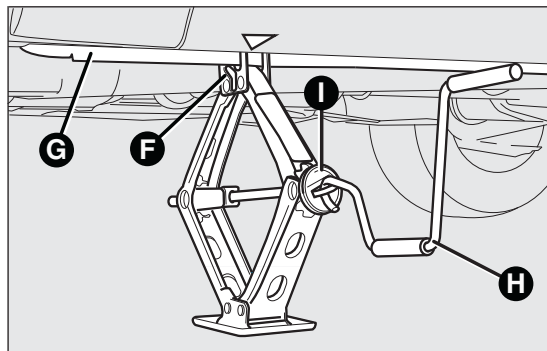

fig. 100
- ☐ turn the jack handle to partially open it fig. 100;
- ☐ extend the jack until groove F fig. 100 on the jack fits correctly into ridge G fig. 100 underneath the side member;
- ❑ fit the handle H fig. 100 to operate the jack device I fig. 100 and raise the car until the wheel is a few centimetres from the ground. When turning the jack handle make sure that it can turn freely without scraping your hand against the ground. The moving components of the jack (screws and joints) can also cause injuries: avoid touching them. If you become soiled with the lubricating grease, wash it off thoroughly;